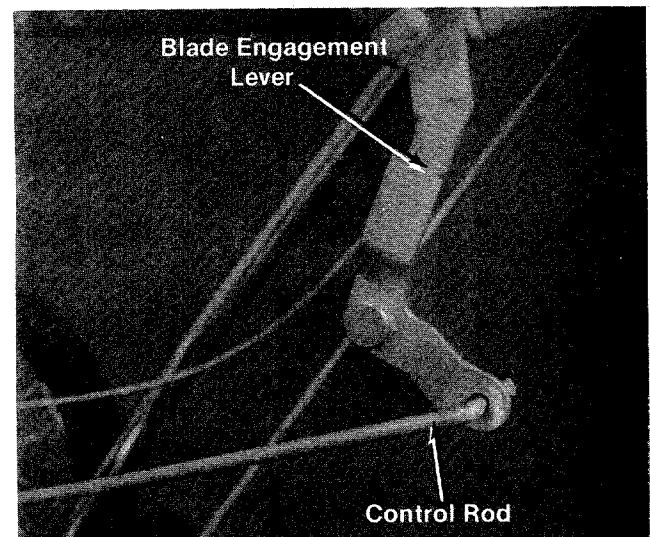

FIGURE 4
5. Attach the Blade Engagement Lever to the Control Rod as it is shown in figure 4.
- Assemble the control lever to the handle panel with the flat washer and locknut. (See figure 4.)